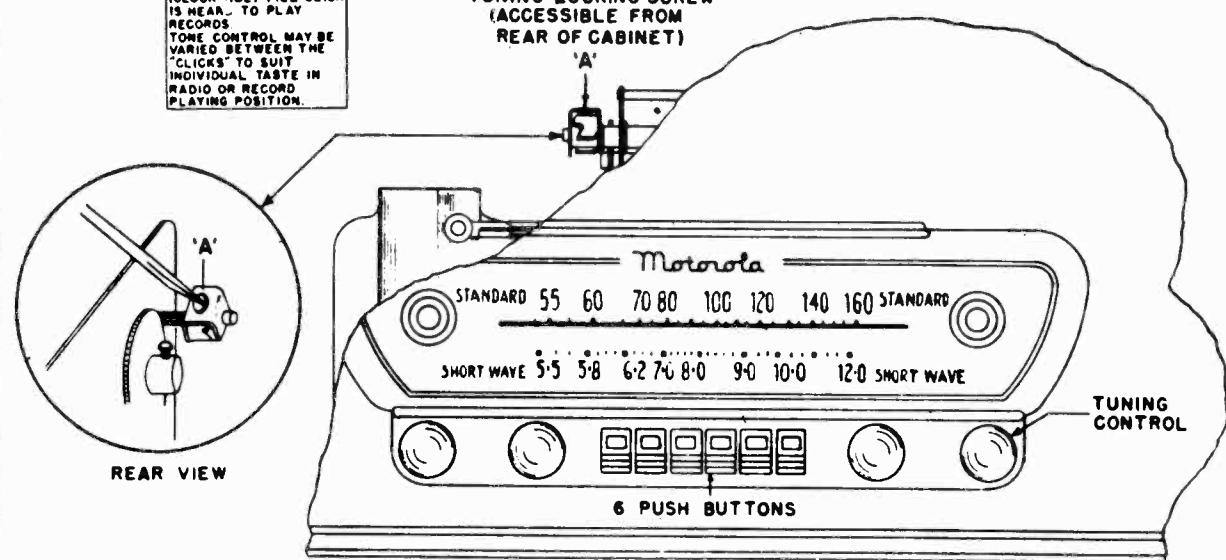

FIGURE 4. TUNER LOCKING SCREW LOCATION
2. While waiting for the radio to warm up, loosen the tuner locking screw (A) all the way. The locking screw is accessible from the rear of the cabinet. (See Figure 4).
9. Carefully tighten the tuner locking screw (A).